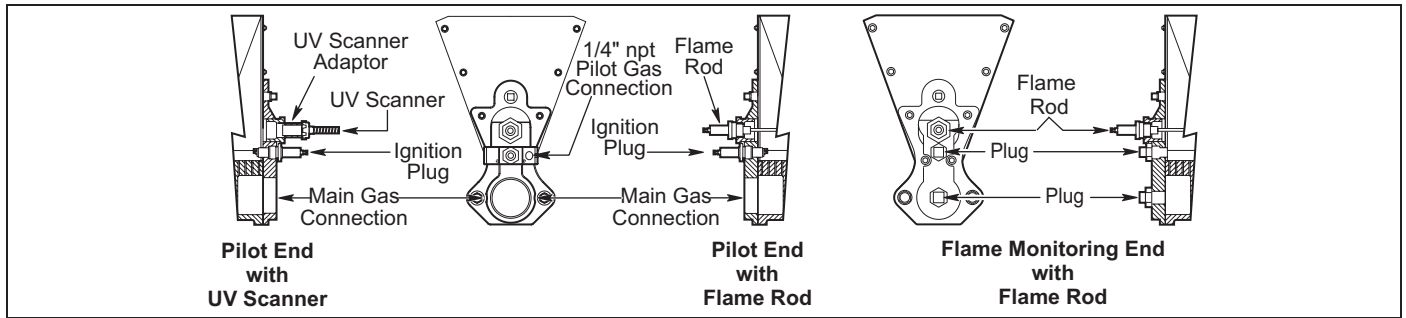

Figure 3.4 End Plate Examples (Shown with Optional UV, Flamerod, and Spark Plug Installed)
1. Depending on the chosen flame sensor, locate and install it into the corresponding opening located in the end plate as shown in Figure 3.4.
Install the spark (ignition) plug into the appropriate opening of the end plate as shown in Figure 3.4.